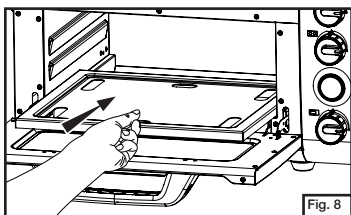

Fig. 8
- Open oven door and insert the oven heat diffuser in the lowest support position. Make sure it is inserted completely. (Fig. 8)